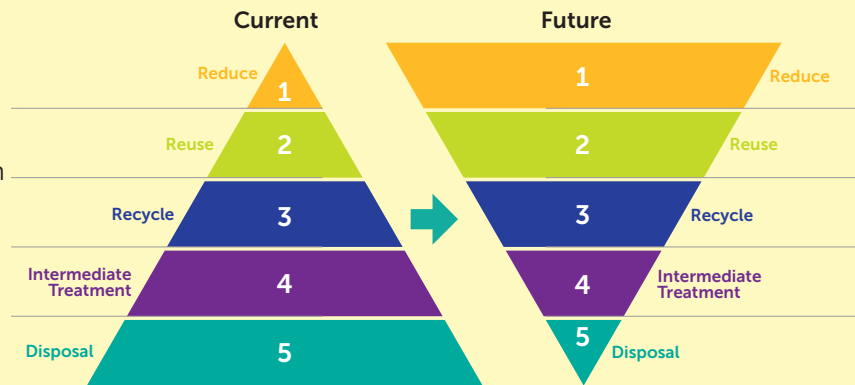

Figure 5
9. Figure 5 shows the current solid waste management hierarchy and future waste management hierarchy. Based on your understanding and knowledge, why is it vital for us to move from the current waste management hierarchy to the future waste management hierarchy?